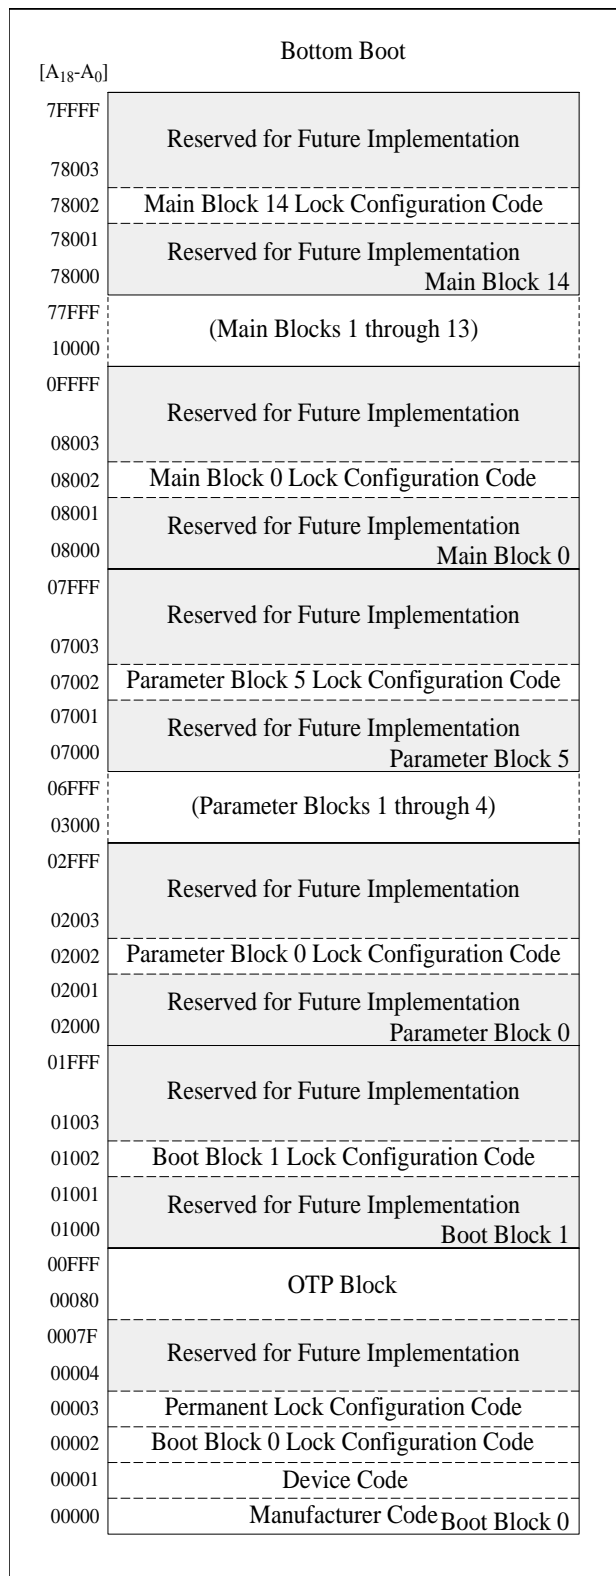

Figure 4. Device Identifier Code Memory Map
The read identifier codes operation outputs the manufacturer code, device code, block lock configuration codes for each block and the permanent lock configuration code (see Figure 4). Using the manufacturer and device codes, the system CPU can automatically match the device with its proper algorithms. The block lock and permanent lock configuration codes identify locked and unlocked blocks and permanent lock-bit setting.
IA=Identifier Code Address: see Figure 4.
The identifier code operation is initiated by writing the Read Identifier Codes command. Following the command write, read cycles from addresses shown in Figure 4 retrieve the manufacturer, device, block lock configuration and permanent lock configuration codes (see Table 4 for identifier code values). To terminate the operation, write another valid command. Like the Read Array command, the Read Identifier Codes command functions independently of the  $V_{CCW}$  voltage and RP# can be  $V_{IH}$ . Following the Read Identifier Codes command, the following information can be read:
1. BA selects the specific block lock configuration code to be read. See Figure 4 for the device identifier code memory map.